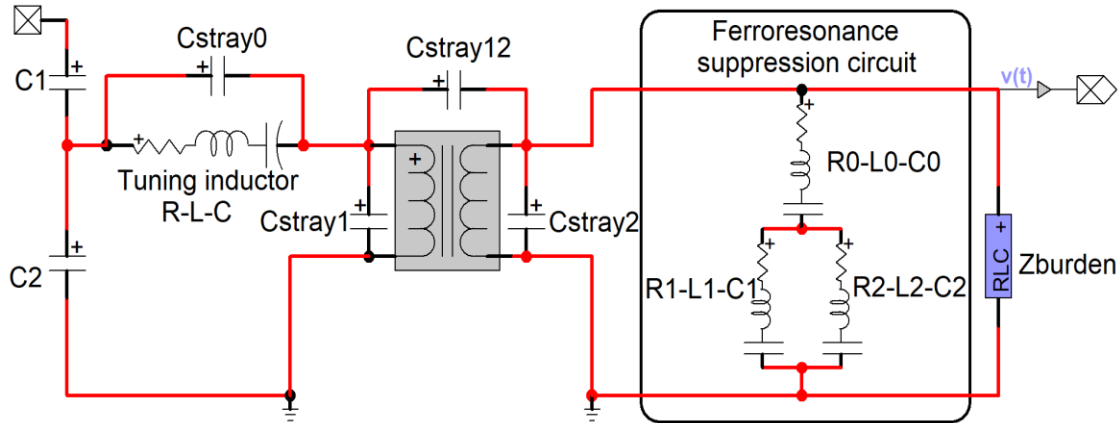

Figure 1: CVT subcircuit
- ❑ **Cstray 0:** Tuning inductor stray capacitance (see Figure 1)
- ❑ **Cstray 1:** Winding 1-to-ground stray capacitance of the CVT transformer (see Figure 1)
- ❑ **Cstray 2:** Winding 2-to-ground stray capacitance of the CVT transformer (see Figure 1)
- ❑ **Cstray 12:** Winding 1-to-winding 2 stray capacitance of the CVT transformer (see Figure 1)
- ❑ **RLC (0-1-2):** RLC parameters of each branch (see Figure 1)